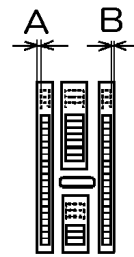

Fig.5
2. When the feed dog is brought to the highest position (= upper dead point of needle bar) by rotating the handwheel, measure the sideways position (A, B) of feed dog.(Fig. 5)
A = B (Fig. 5)